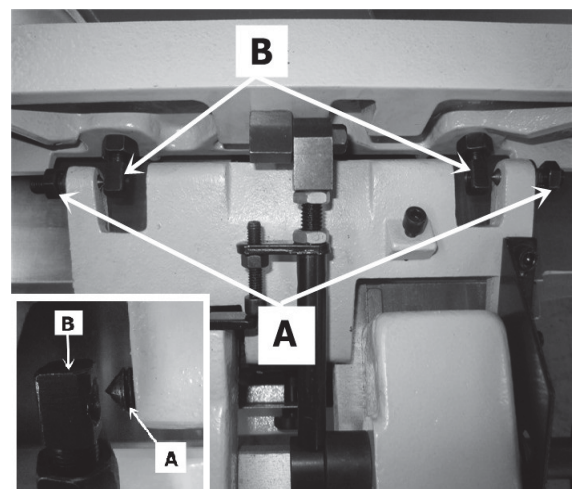

Figure 25
4. Loosen the two cone screws on the fence carriage (A Fig. 25), line up with the two cone nuts on the fence (B Fig. 25).
5. Tighten cone screws while adjusting the flexibility of the fence by tilting the fence. When the fence is secured and also properly flexible, tighten the nut on cone screws (C Fig. 25).